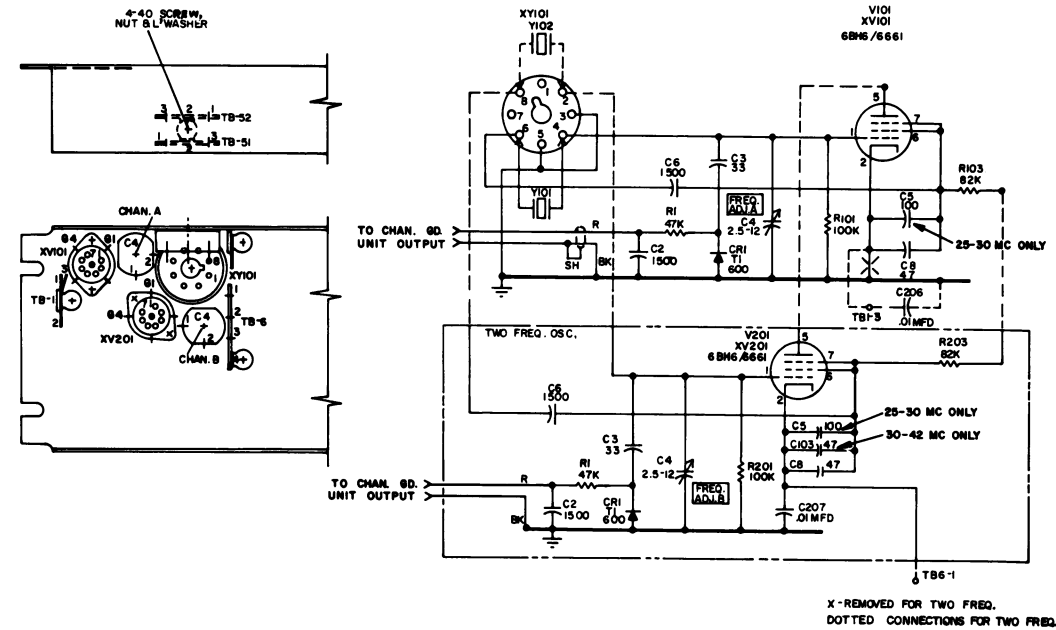

FIG. 1
C. Mount TB51 (with its components) as shown in Figure 1.
G. Check the oscillator circuit with Figure 1.
D. Mount TB52 (with its components) as shown in Figure 1.
H. Check the oscillator circuit with Figure 1.